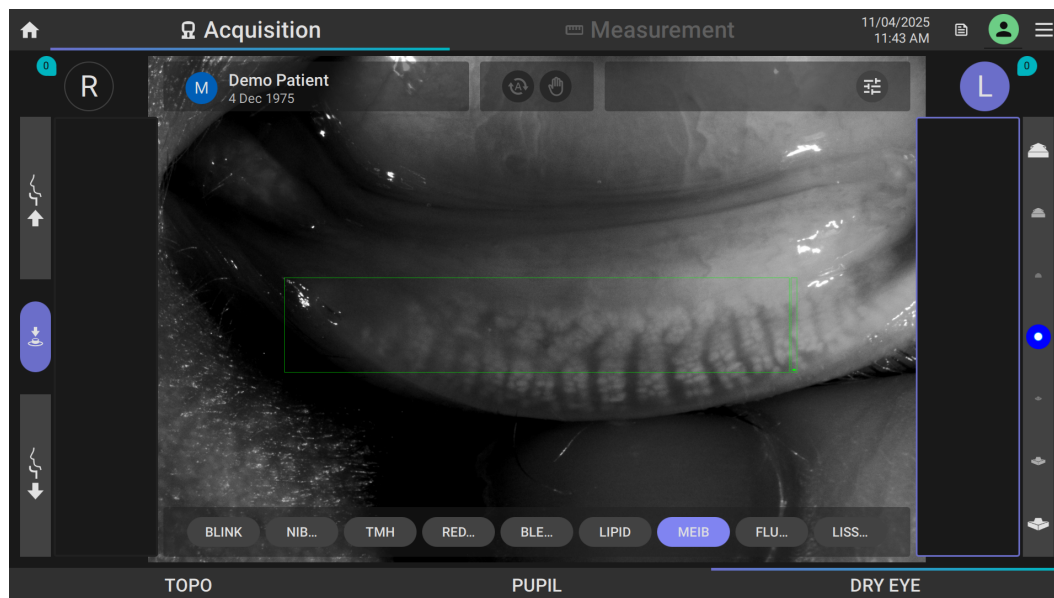

Figure 12.72: Meibomian acquisition environment
By selecting MEIB acquisition mode, the acquisition environment in Figure 12.72 is shown.
1. To acquire images of the Meibomian glands, select the MEIB button (Meibomian) on the Acquisition screen (Figure 12.72).